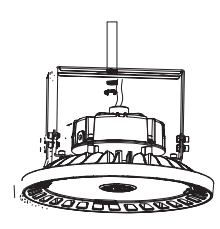

Fig. 10
3. Re-screw the nuts. (Fig. 10)